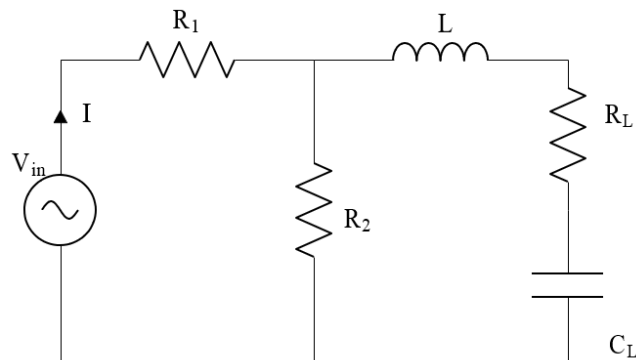

Figure 8.1: Schematic for AC circuit
1. Calculate V_{LOAD} , V_{TH} and Z_{TH} of circuit given in Figure 8.1 and fill the spaces in Task 2 and Table 8.1.
- For the circuit of Figure 8.1 record the voltage across the load (**$R_L = 1\text{ k}\Omega$ and $C_L = 47\text{ nF}$**). Use $R_1 = 1.5\text{ k}\Omega$, $R_2 = 2.2\text{ k}\Omega$ and $L = 10\text{ mH}$ with an AC voltage source of value 1 V and frequency 10 kHz . Record the voltage in given space below:
- Simulate the circuit given in Figure 8.1 Measure the load voltage (V_L) and Δt (w.r.t V_{IN}) in given space below. Make sure you measure Δt and ϕ with correct sign. Discard first 5 cycles then take measurement. For smoother waveform keep the maximum step size in 100 times smaller than the time period.